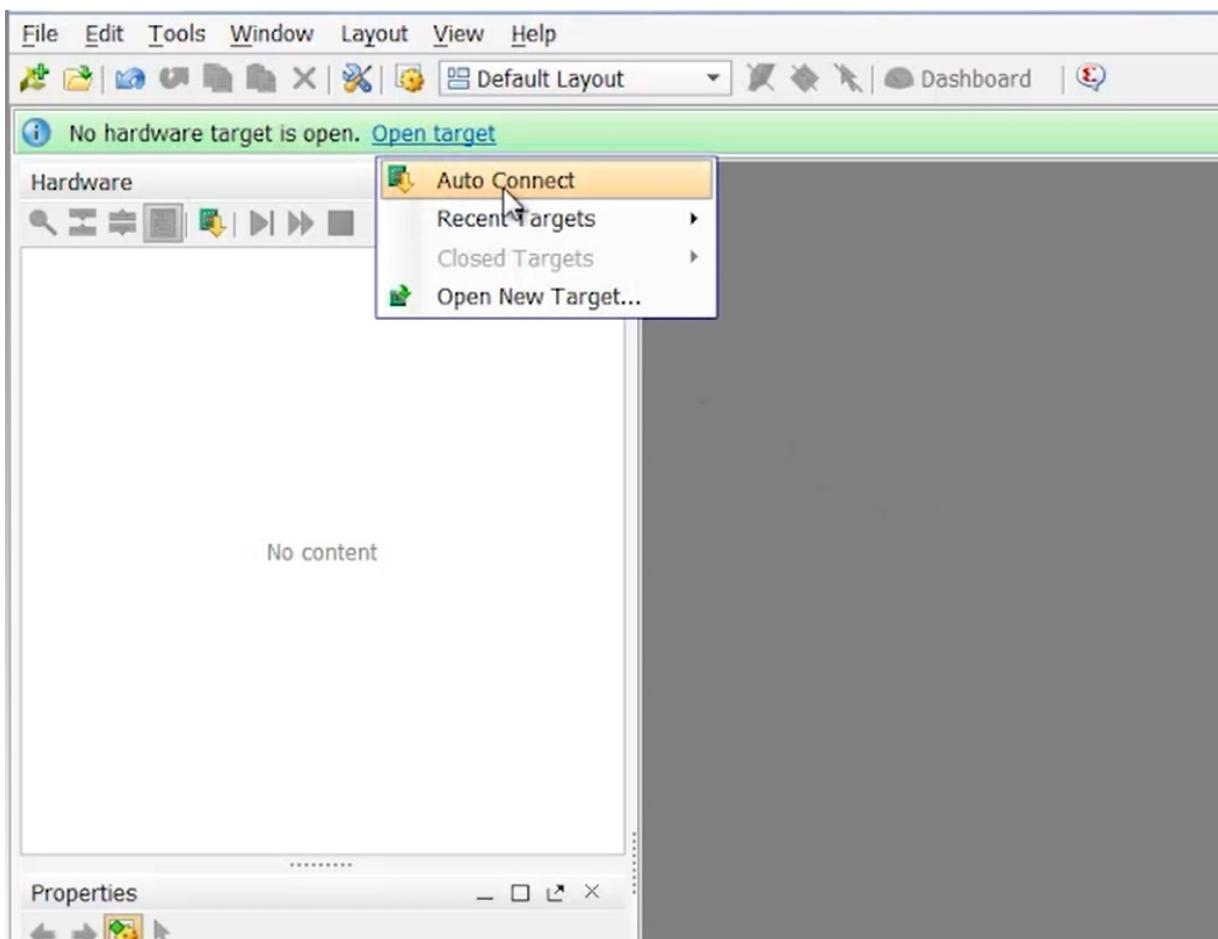

Figure 9: To connect to the FPGA, click 'Open target' in the green bar, and then select 'auto connect'.
- 242 • In the green bar at the top, click 'Open target', then 'auto connect'. This can be seen in Figure 9.